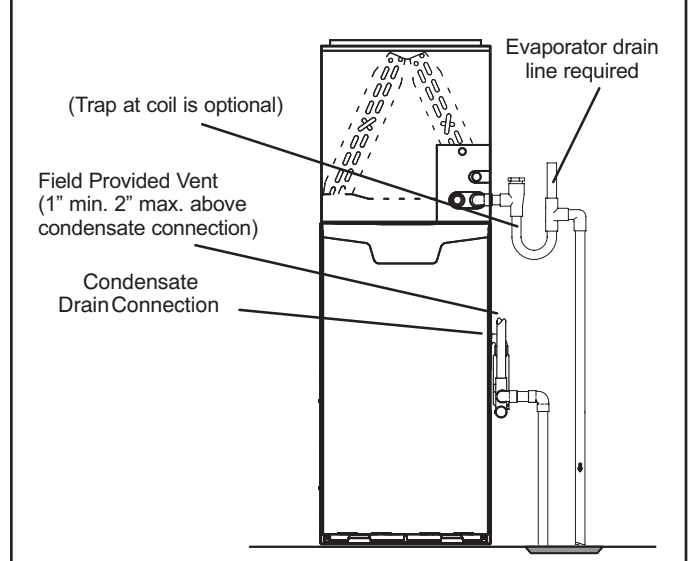
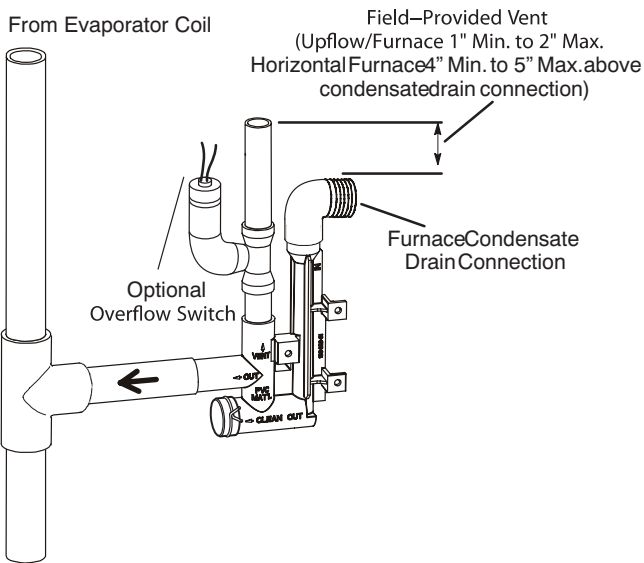
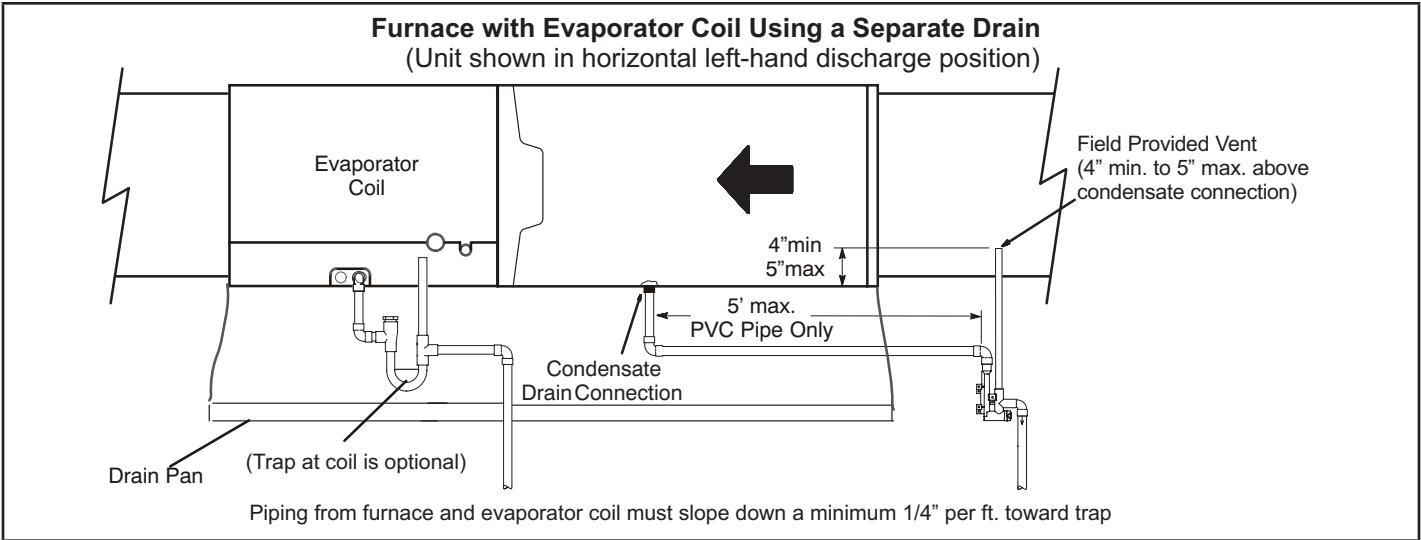
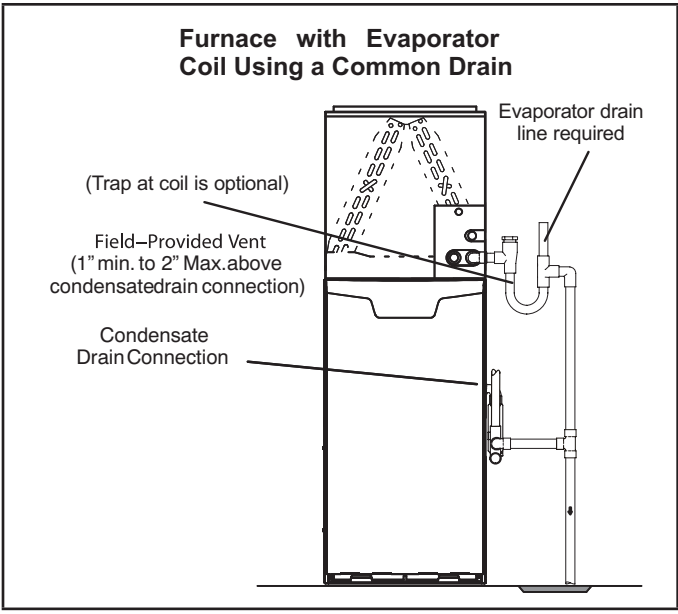

FIGURE 50
FIGURE 49
FIGURE 51
FIGURE 52
- 5 - "FIGURE 50" and "FIGURE 51" show the furnace and evaporator coil using a separate drain. If necessary the condensate line from the furnace and evaporator coil can drain together. See "FIGURE 49", "FIGURE 52"(upflow furnace) and "FIGURE 53".